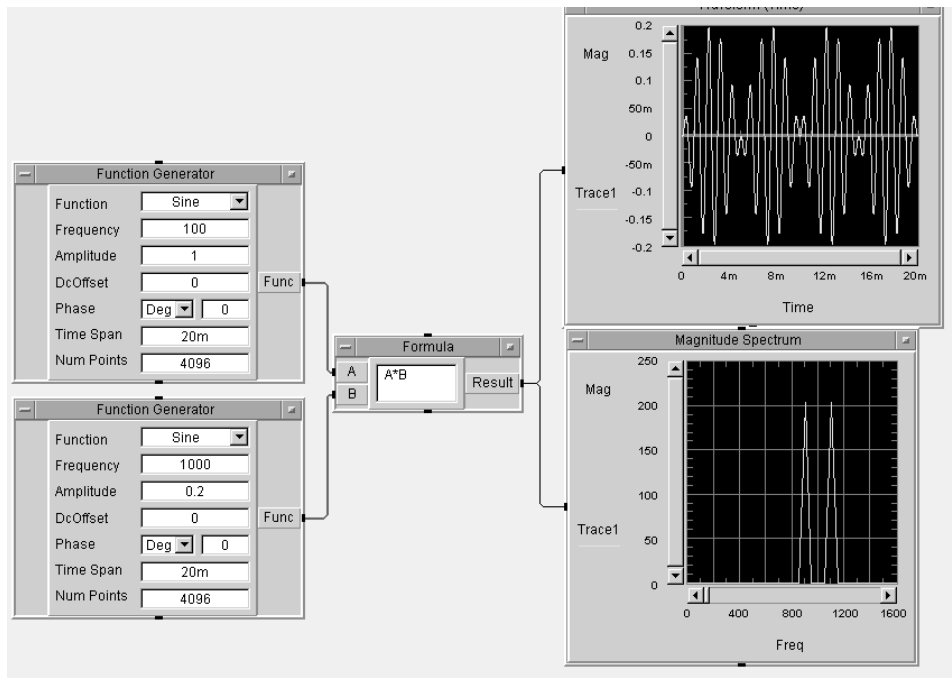

Figure 13.5. Effect of modulation on time and frequency domains
34. Change the Formula expression from $A+B$ to $A*B$ again. See Figure 13.5.